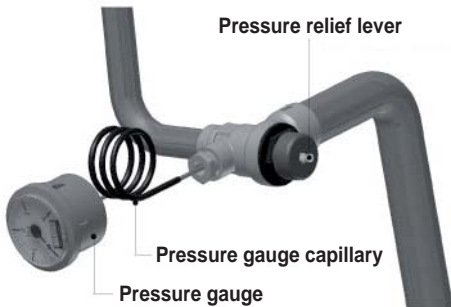

Fig. 7.3
- Check the operation of the pressure relief valve (Fig. 7.3) by lifting the lever or turning the knob on the valve gently to ease the valve of its seat.